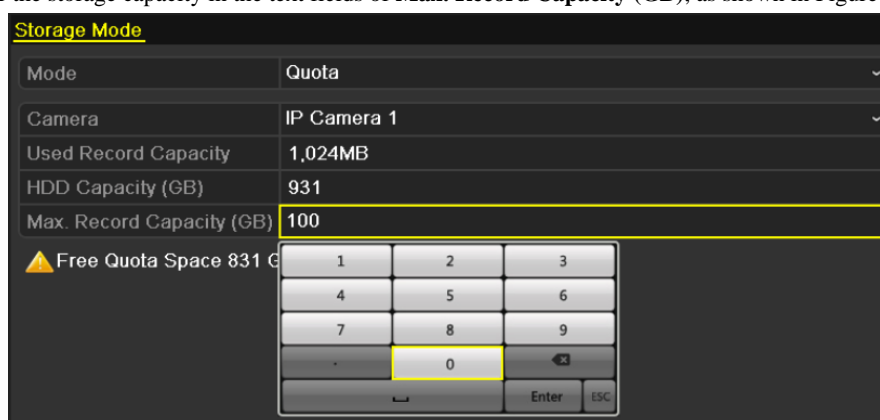

Figure 10.17 Configure Record Quota
2. Set the **Mode** to Quota, as shown in Figure 10.17.